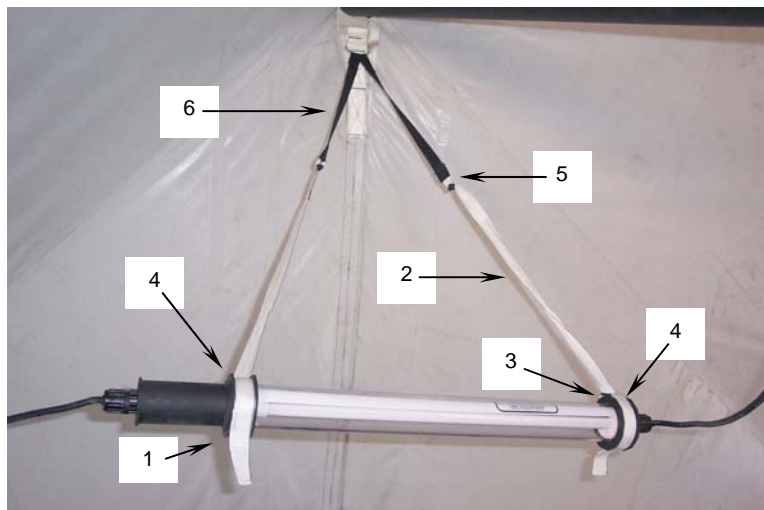

Figure 15. Removing the Electric Lights.
- c. Disconnect the hook and loop fasteners (**Figure 15, Item 1**) and pull the light-hanging straps (**Figure 15, Item 2**) out from their D-rings (**Figure 15, Item 3**), releasing the light-hanging straps from the lip of the light (**Figure 15, Item 4**) at both ends.
- d. Release the knots (**Figure 15, Item 5**) that connect the light-hanging straps (**Figure 15, Item 2**) to the tent light hanger (**Figure 15, Item 6**) and disconnect the straps from the hanger.